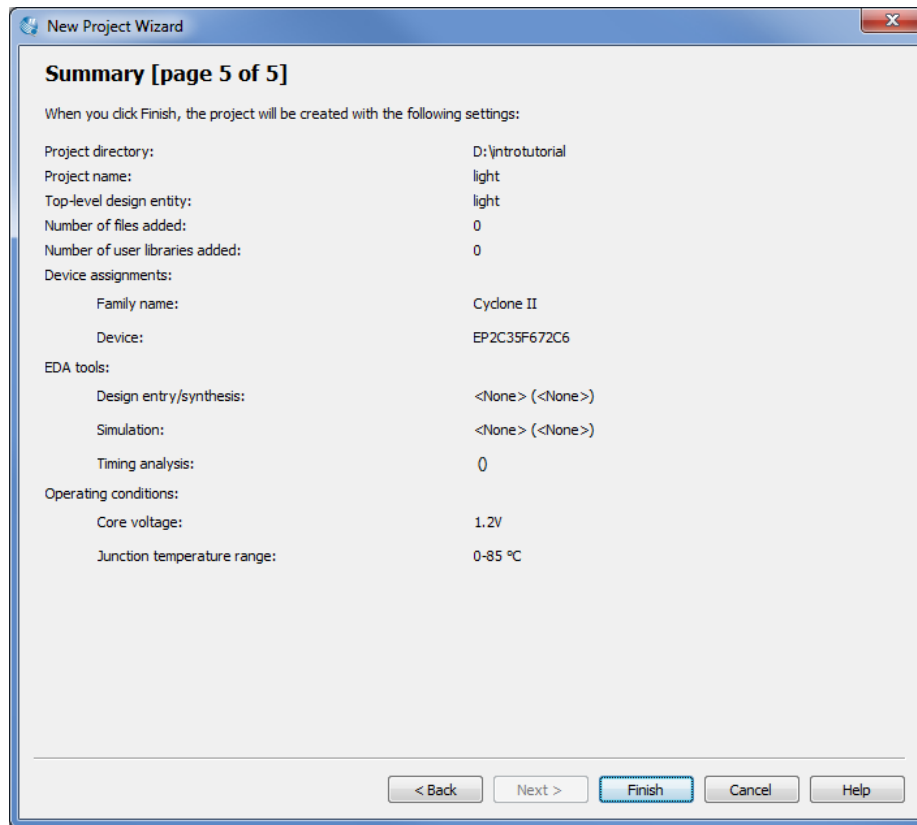
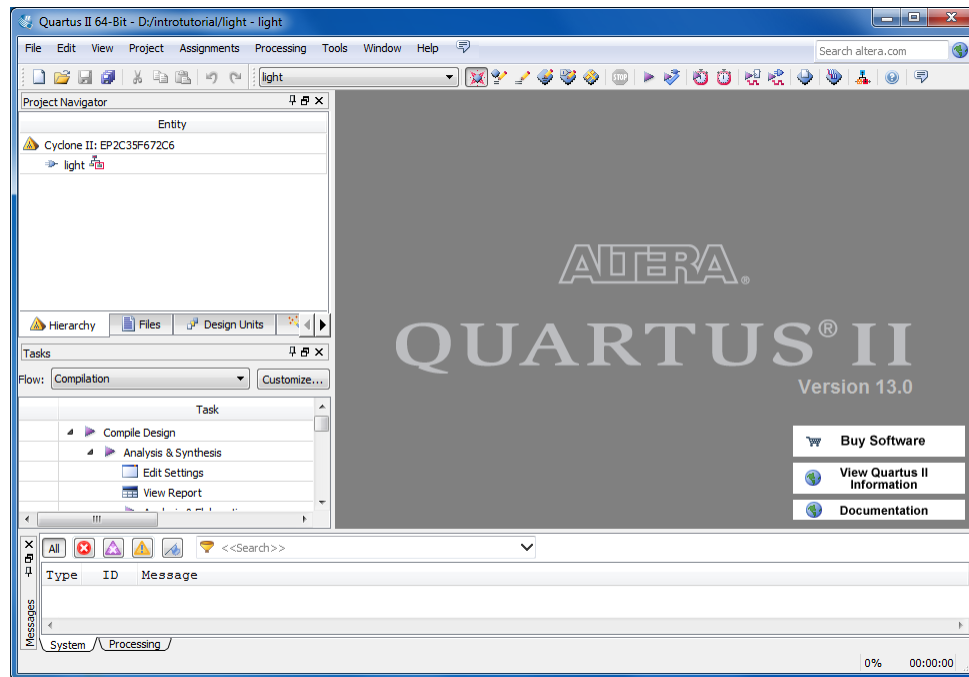

Figure 9. Example summary of a DE2 board project settings.
Figure 10. The Quartus II display for created project on a DE2 board.
6. A summary of the chosen settings appears in the screen shown in Figure 9. Press **Finish**, which returns to the main Quartus II window, but with *light* specified as the new project, in the display title bar, as indicated in Figure 10.